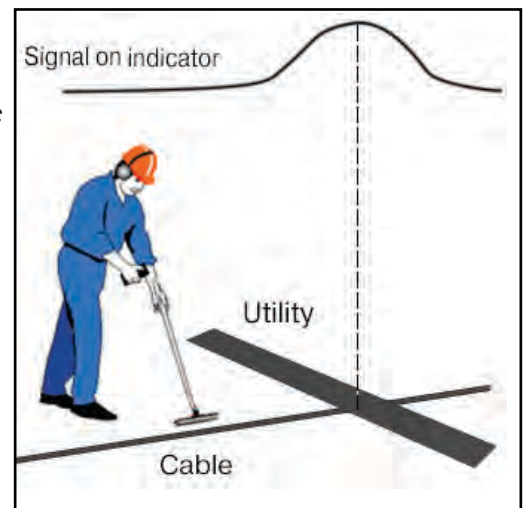

Fig.6.2
3. Position the electromagnetic antenna over the pipeline, parallel to the pipeline route (signal level displayed on the receiver screen will be close to zero) (**fig. 6.2**). Perform route location in accordance with the maximum method. When following the route, the intersection points with utility lines can be identified by the maximum signal.